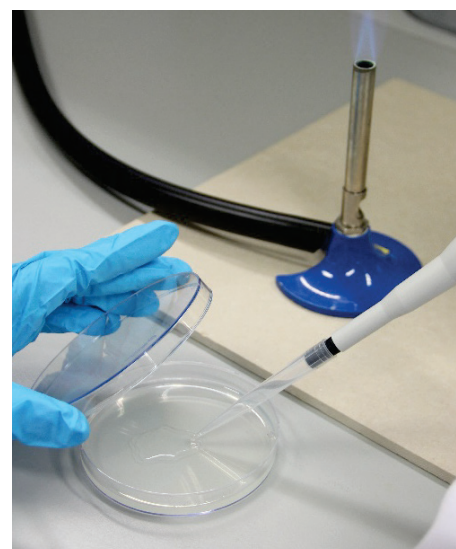

Fig. 13
15. Using the P200 micropipette, aseptically* pipette 0.1 ml solution of tube B to one of the PCA plates marked “1:100” (Fig. 13).